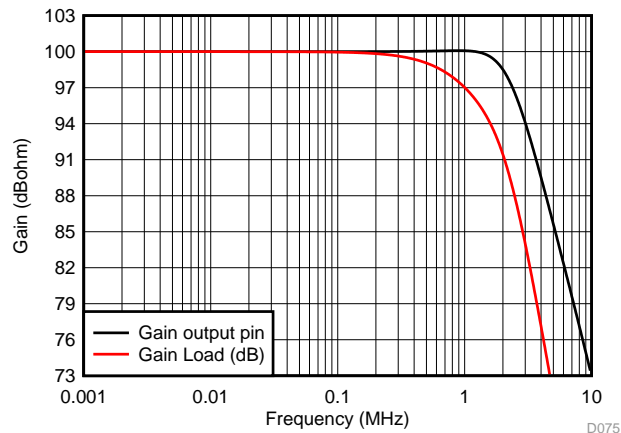

Figure 81. Small-Signal Response for 100-k Ω Transimpedance Gain
- Assume a nominal source capacitance value of 100 pF. This normally comes from the capacitance versus reverse bias plot for the photodiode. No reverse bias is illustrated in Figure 81, but the current source is typically a back biased diode with a negative supply on the anode and the cathode connected to the op amp inverting input. In this polarity, the signal current sinks into the diode and raises the op amp output voltage above ground.
Implementing this design and simulating the performance using the TINA model for the response to the output pin and to the final capacitive load shows the expected results of Figure 81. Here the exact 2.2-MHz flat Butterworth response to the output pin is shown with the final single pole rolloff at 1 MHz at the final 2.2-nF capacitor.